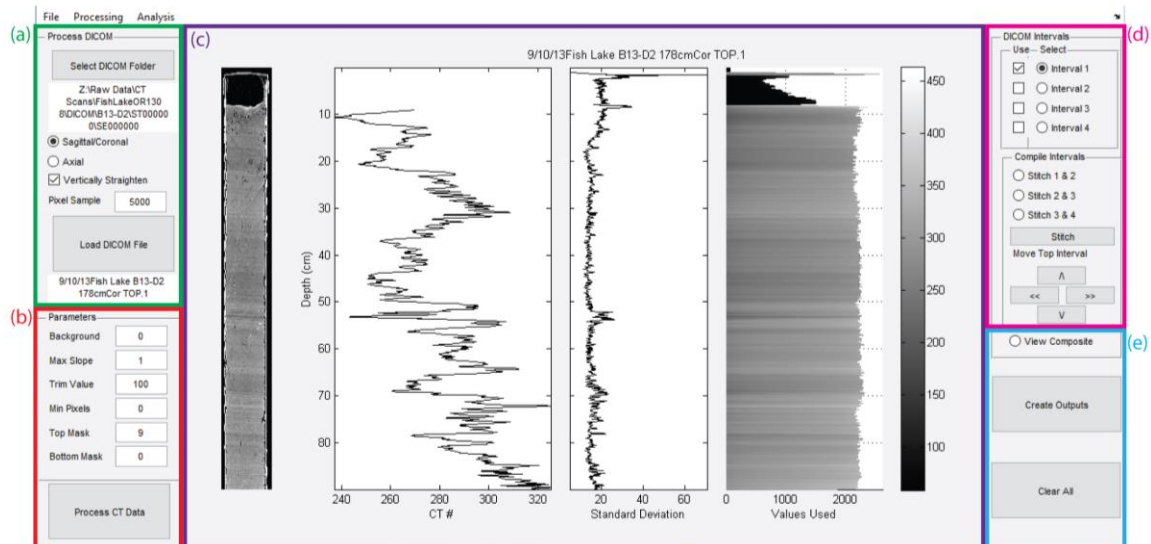

Figure 2. The SedCT v1.01 graphical user interface (GUI).
- 2) Orient yourself the GUI. On the left are input (Figure 2a) and processing parameters (Figure 2b). The center is the data viewer (Figure 2c). On the right are tools to manage cores run in multiple intervals (Figure 2d) and to export the results (Figure 2e). There are slight changes to the user interface for v. 1.08 that are not pictures in Figure 2.